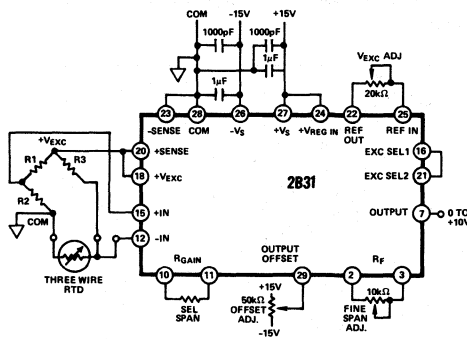

Figure 8. Three-Wire RTD Interface
**Interfacing Three-Wire Sensors:** A bridge configuration is particularly useful to provide offset in interfacing to a platinum RTD and to detect small, fractional sensor resistance changes. Lead compensation is employed, as shown in Figure 8, to maintain high measurement accuracy when the lead lengths are so long that thermal gradients along the RTD leg may cause changes in line resistance. The two completion resistors ( $R_1$ ,  $R_2$ ) in the bridge should have a good ratio tracking ( $\pm 5\text{ppm}/^{\circ}\text{C}$ ) to eliminate bridge error due to drift. The single resistor ( $R_3$ ) in series with the platinum sensor must, however, be of very high absolute stability. The adjustable excitation in the 2B31 controls the power dissipated by the RTD itself to avoid self-heating errors.